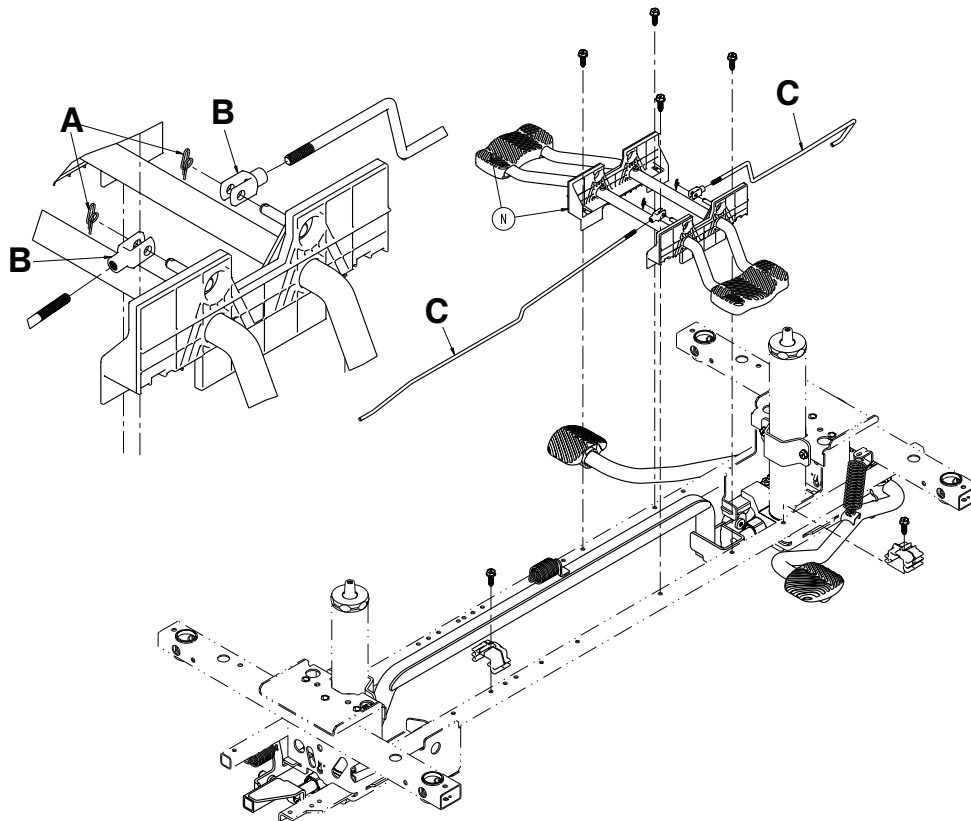

Figure 16 – Adjust the release pedal
3. Using needle nose pliers, remove the rue ring cotter (A) from the release pedal assembly (Figure 16).